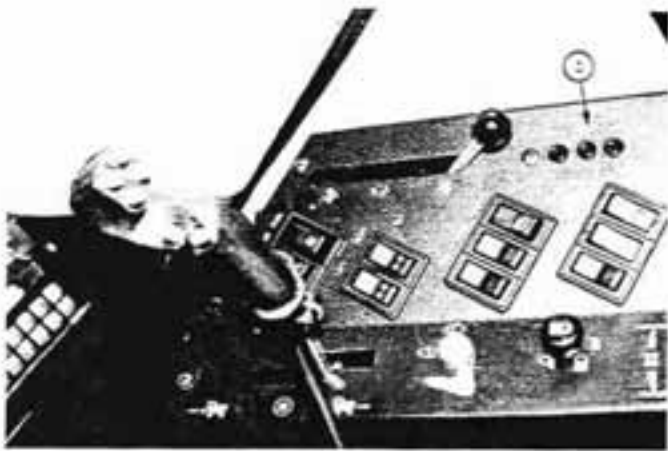

Figure 1
5. Place individual solution valve switches to the "on" position (Page 35; Item 1; Figure 1).